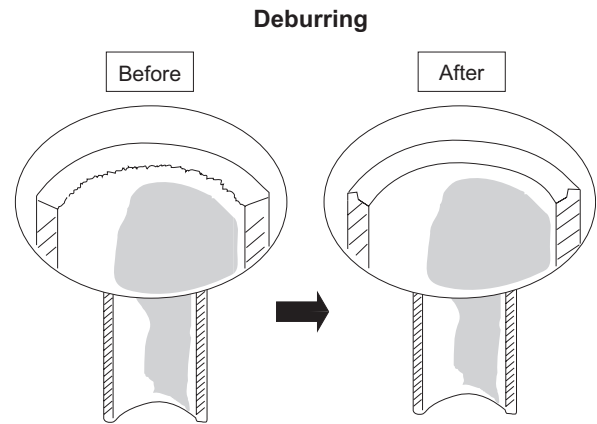

Fig. 1-14
- (1) Cut the copper tube to the required length with a tube cutter. It is recommended to cut approx. 12 – 20 in. longer than the tubing length you estimate.
- (2) Remove burrs at each end of the copper tubing with a tube reamer or file. This process is important and should be done carefully to make a good flare. Be sure to keep any contaminants (moisture, dirt, metal filings, etc.) from entering the tubing. (Figs. 1-14 and 1-15)